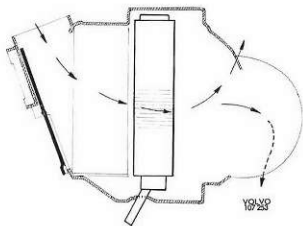
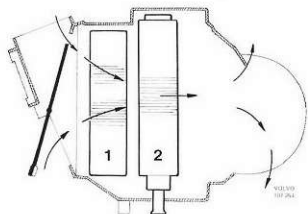

Fig. 8-42. Air circulation through system
Fig. 8-43. Air circulation through system with re-circulation
The air flow through the vents on the dash are only regulated by the vent shutter and is not influenced by the push buttons. When all buttons are out, only fresh air is drawn into the unit (Fig. 8-42), all flow ducts are closed and the defroster effect is weak. When the button marked "FLOOR" is pushed in, full air flow is supplied to the front and rear floor together with weak defroster effect. When the middle button "DEF" is pushed in, full defroster effect is obtained while the floor ducts on the other hand are fully closed. When the right button marked "REC" is pushed in, the air intake cover is adjusted to re-circulation of the compartment air (Fig. 8-43). With the cover in this position, only a small portion of fresh air is sucked in and mixed with the compartment air. If the vehicle is provided with air conditioning, more effective lowering of the temperature inside the compartment is obtained if the re-circulation is used.
Even when the air conditioning is switched on with a switch (17, Fig. 8-41) on the dash, the air temperature is regulated by the "TEMP" control. Fig. 8-43 shows how the sucked-in air is first cooled when it passes the evaporator (1) and how it is heated, when it passes the heater cell assembly (2), up to the temperature adjusted by the "TEMP" control. When the air passes the evaporator, it liquifies as it cools. The moisture which condenses on the evaporator during the cooling, is drained through the two hoses (26, Fig. 8-41), which run through the transmission tunnel.